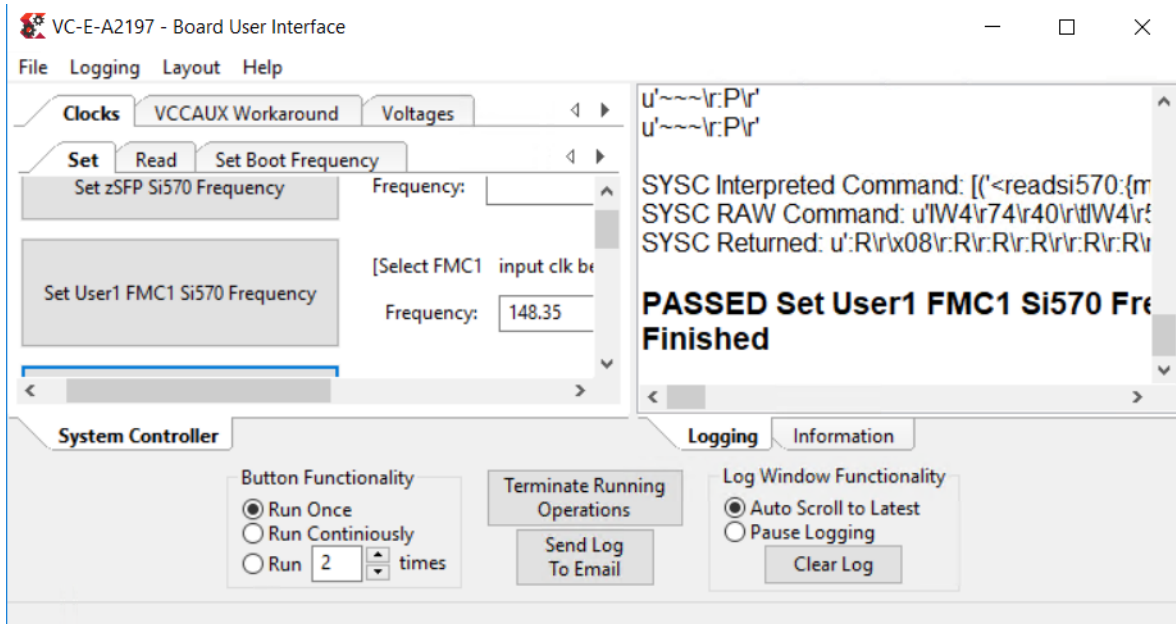

Figure 5-51: Setting the Clock Frequency
- Click on the **Clock** tab, and then set the user1 FMC1 si570 frequency clock to **148.35** as shown in Figure 5-51 below: